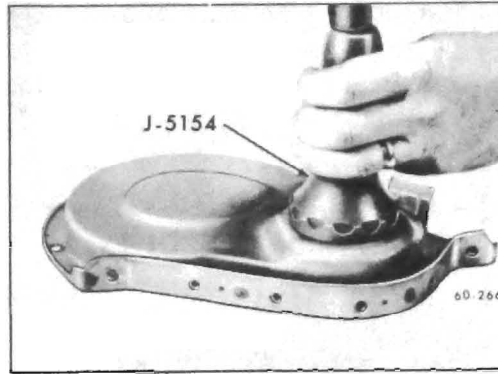

Figure 60-127--Installing Oil Seal
2. Install new seal so that open end of the seal is toward the inside of cover and drive it into position with Tool J-21426. See Figure 60-127.